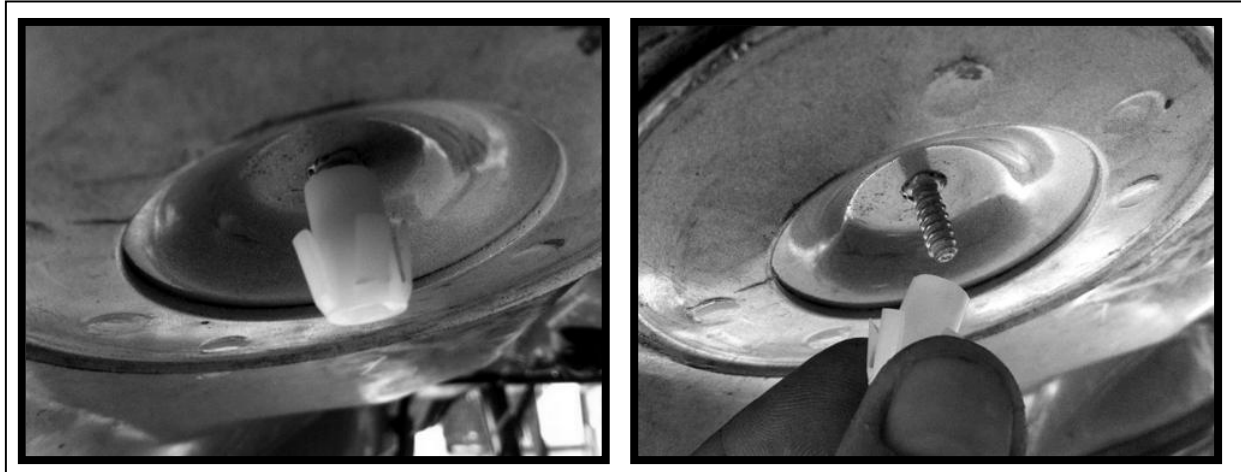

FIGURE 10-32
35.0 REPLACE RETENTION CLIP WITH NEW CLIP PROVIDED ON THE UPPER MOUNT. (FIGURE 10-32)